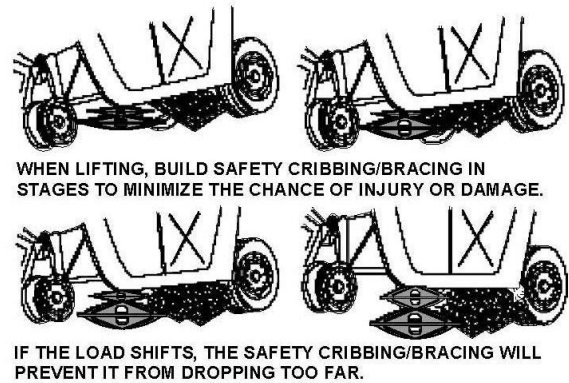

Figure 2-3. Correct Method of Safety Cribbing/Bracing
e. Build support cribbing/bracing height to a point that just allows the lift bag(s) to be inserted. Safety cribbing/bracing must be installed as the load is being lifted, remembering the generally applied rule to “lift an inch, crib an inch”. Care must be exercised to avoid injury and damage in the event of a drop and/or load shift (figure 2-3). The top support cribbing/bracing layer must be sufficiently solid to prevent a cribbing/bracing shift and collapse during inflation when the lift bag(s) take on the characteristic double dome shape. Build safety